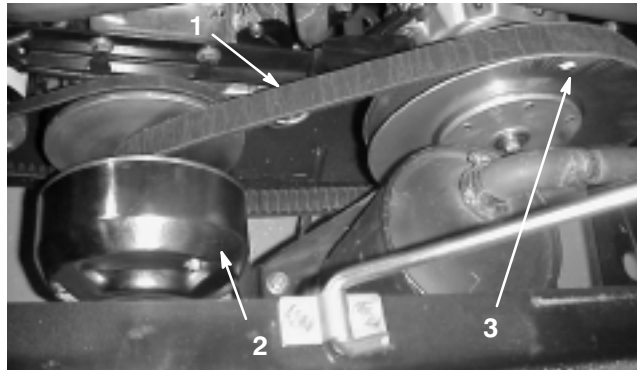

Figure 33
1. Rotate and route the belt over the secondary clutch (Fig. 33).
2. Remove the belt from the primary clutch (Fig. 33).